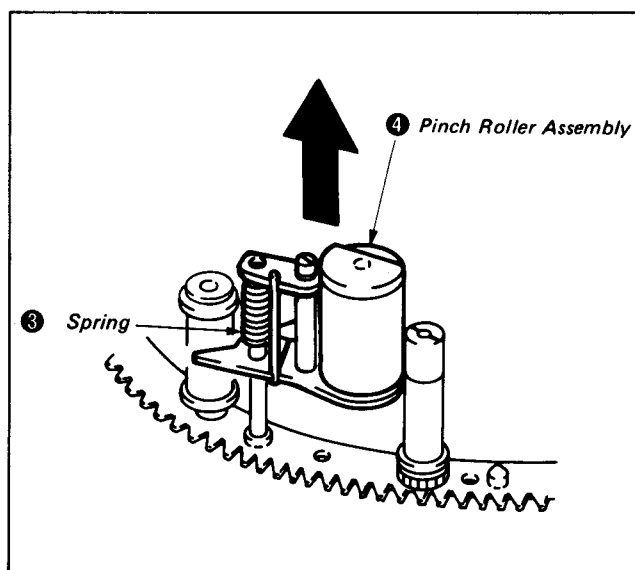

Fig. 8-18.
- 5) Remove the pinch roller assembly ④ toward the arrow. (See Fig. 8-18.)